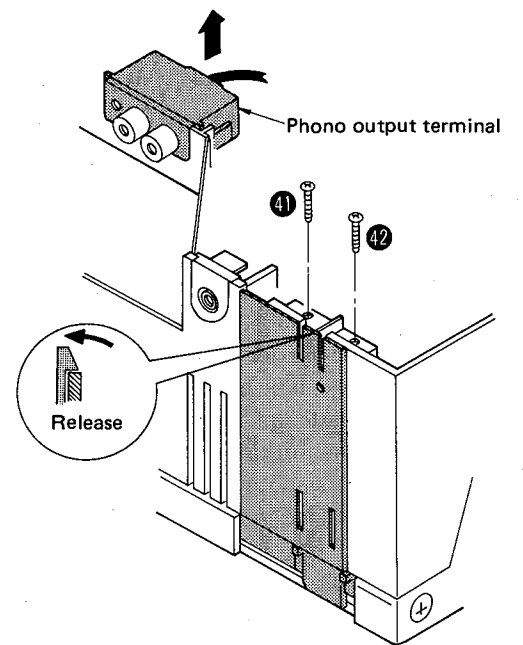

Fig. 11
4. Remove the 4 screws (Fig. 11, 12 : 41 ~ 44) of the hinge.